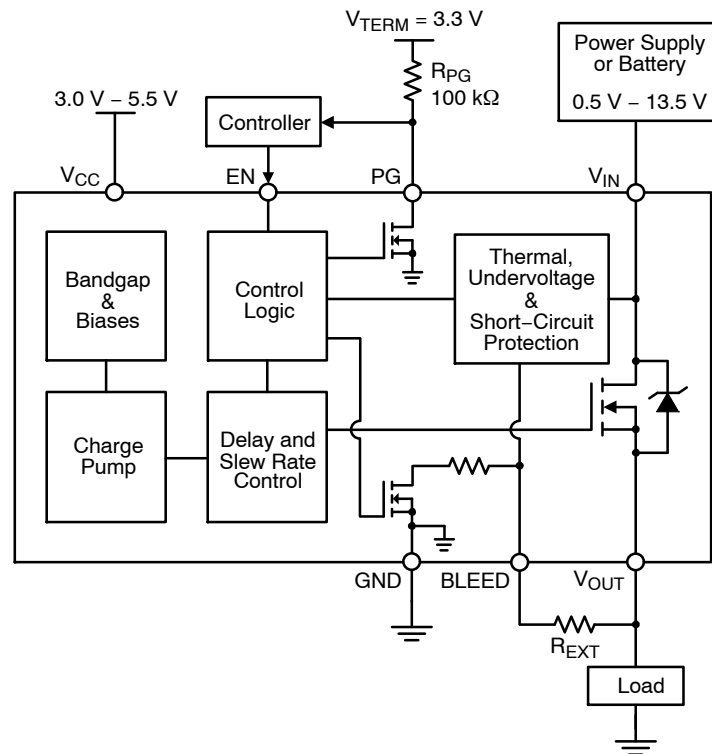
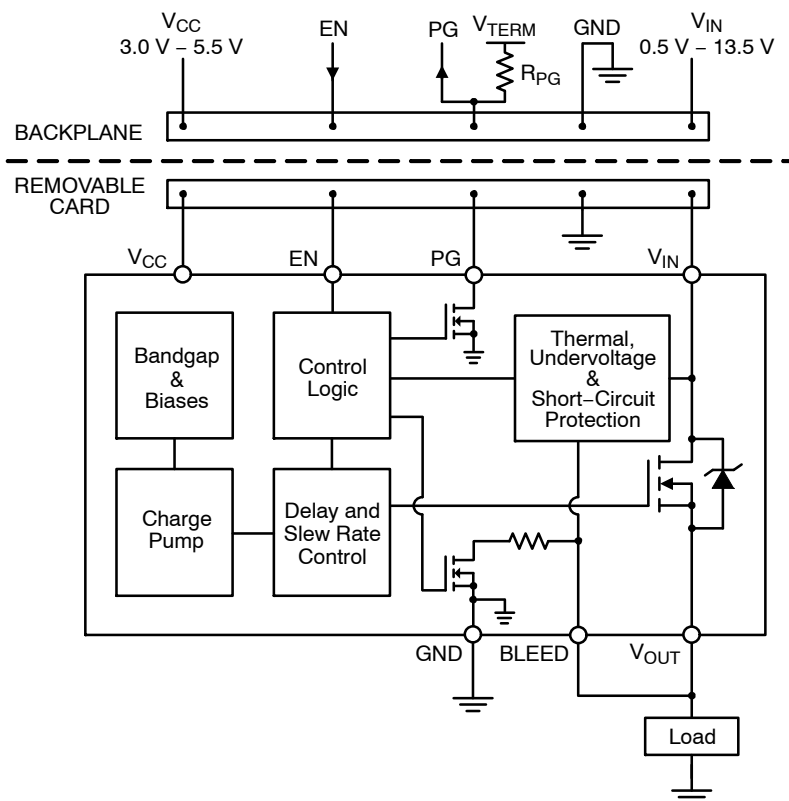

Figure 3. NCP45520 Typical Application Diagram – Load Switch
Figure 4. NCP45520 Typical Application Diagram – Hot Swap
It is required that the BLEED pin be connected to  $V_{OUT}$  either directly (as shown in Figures 4 and 7) or through an external resistor,  $R_{EXT}$  (as shown in Figures 3 and 6).  $R_{EXT}$  should not exceed 1 k $\Omega$  and can be used to increase the total bleed resistance.
The NCP45520 devices have a power good output (PG) that can be used to indicate when the gate of the MOSFET is fully charged. The PG pin is an active-high, open-drain output that requires an external pull up resistor,  $R_{PG}$ , greater than or equal to 1 k $\Omega$  to an external voltage source,  $V_{TERM}$ , that is compatible with input levels of all devices connected to this pin (as shown in Figures 3 and 4).
Once active, the circuitry monitors the difference in the voltage on the  $V_{IN}$  pin and the voltage on the BLEED pin. In order for the  $V_{OUT}$  voltage to be monitored through the BLEED pin, it is required that the BLEED pin be connected to  $V_{OUT}$  either directly (as shown in Figures 4 and 7) or through a resistor,  $R_{EXT}$  (as shown in Figures 3 and 6), which should not exceed 1 k $\Omega$ . With the BLEED pin connected to  $V_{OUT}$ , the short-circuit protection is able to monitor the voltage drop across the MOSFET.